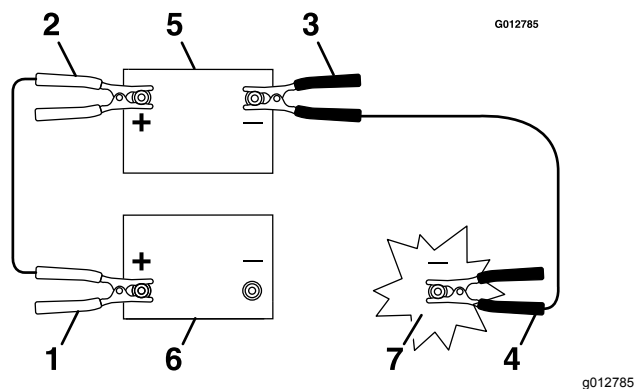

Figure 84
2. Carefully slip back the insulator cover of the positive battery cable (Figure 84).
3. Connect the positive (+) cable clamp (red) to the positive (+) terminal of the discharged battery (Figure 84).